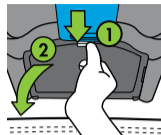

Figure 28
Open UAS Bin Door by pressing and holding top of Lock Tab (1), then rotating UAS Bin Door down (2), as shown in **Figure 28**.